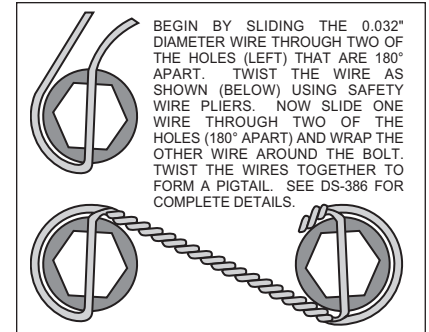

Figure 5. Safety Wire Diagram
- Verify stud size and pattern, then have a qualified machine shop drill the hat section of the rotor to the correct size and pattern. Slide the rotor (3) over the wheel studs covering the mounting bracket assembly (1) and against the axle flange face.
- NOTE:** Please reference the caution statement at the beginning of the assembly instructions. WITH THE BLEED SCREWS POINTING UP, mount the caliper (4) over the rotor (3) and onto the caliper mounting bracket (1) using lock washers (5) and mounting bolts (6). View the rotor through the top opening of the caliper. The rotor should be aligned in the center of the caliper. If not, adjust the caliper by using 0.032 inch shims (7) by placing them between the caliper mounting bracket (1) and the caliper (4). Apply red *Loctite*® 271 to the mounting bolt threads (6), torque to 30 ft-lb. Safety wire the caliper mounting bolts (6) using standard 0.032 inch diameter stainless steel safety wire as shown in Figure 5, next page. Please refer to Wilwood's data sheet DS-386 (available at www.wilwood.com/pdf/ds386.pdf) for complete safety wire installation instructions.